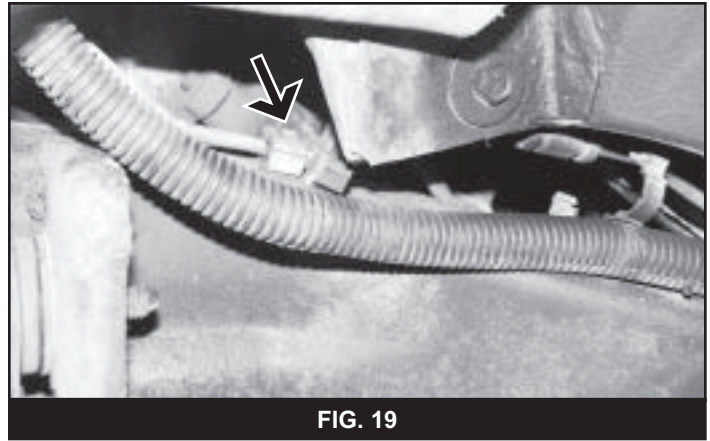

FIG. 19
29. Remove the brake line from the plastic retaining clip on the driver's side frame rail (Fig 19).